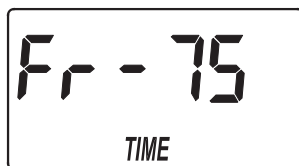

FIG. 24
1. If you completed the previous step, the aspirate time adjust screen should show in the display (See Figure 24). Otherwise, press and hold for 3 seconds the SELECT button, until the display shows "000 - -", then press the SELECT button twice to display the aspirate time adjust screen.